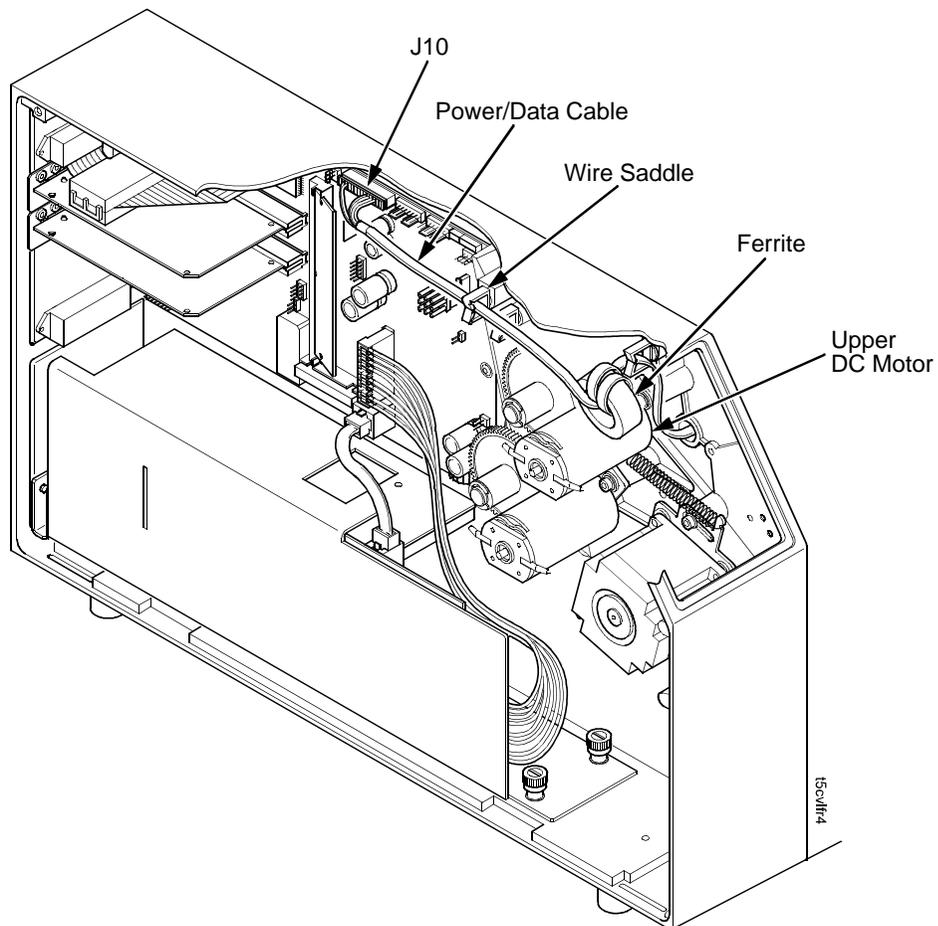

**Figure 6. Adding the Grommet to the Power/Data Cable**
10. On the media side of the printer, slide the split grommet onto the power/data cable and insert it into the frame opening. (Figure 6.)